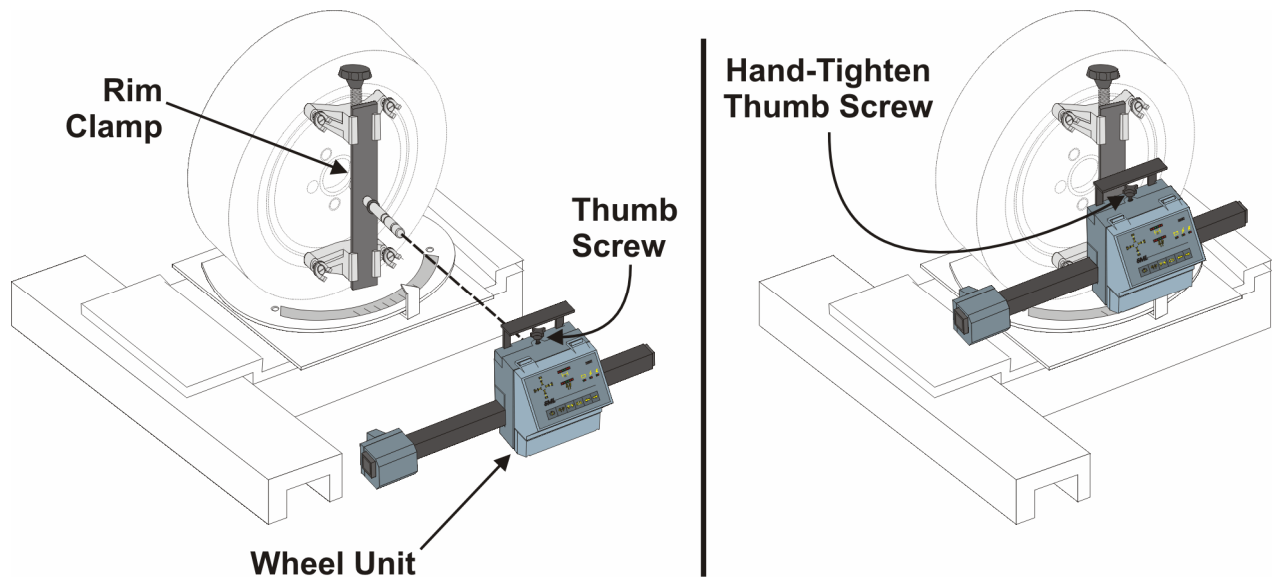

Figure 3-4. Applying Rim Clamps to Vehicle Wheel
- 3.1.7 Using Figure 3-4 as a guide, loosen the thumb screw on the wheel unit, such that the wheel unit can be installed onto the shaft on the rim clamp.